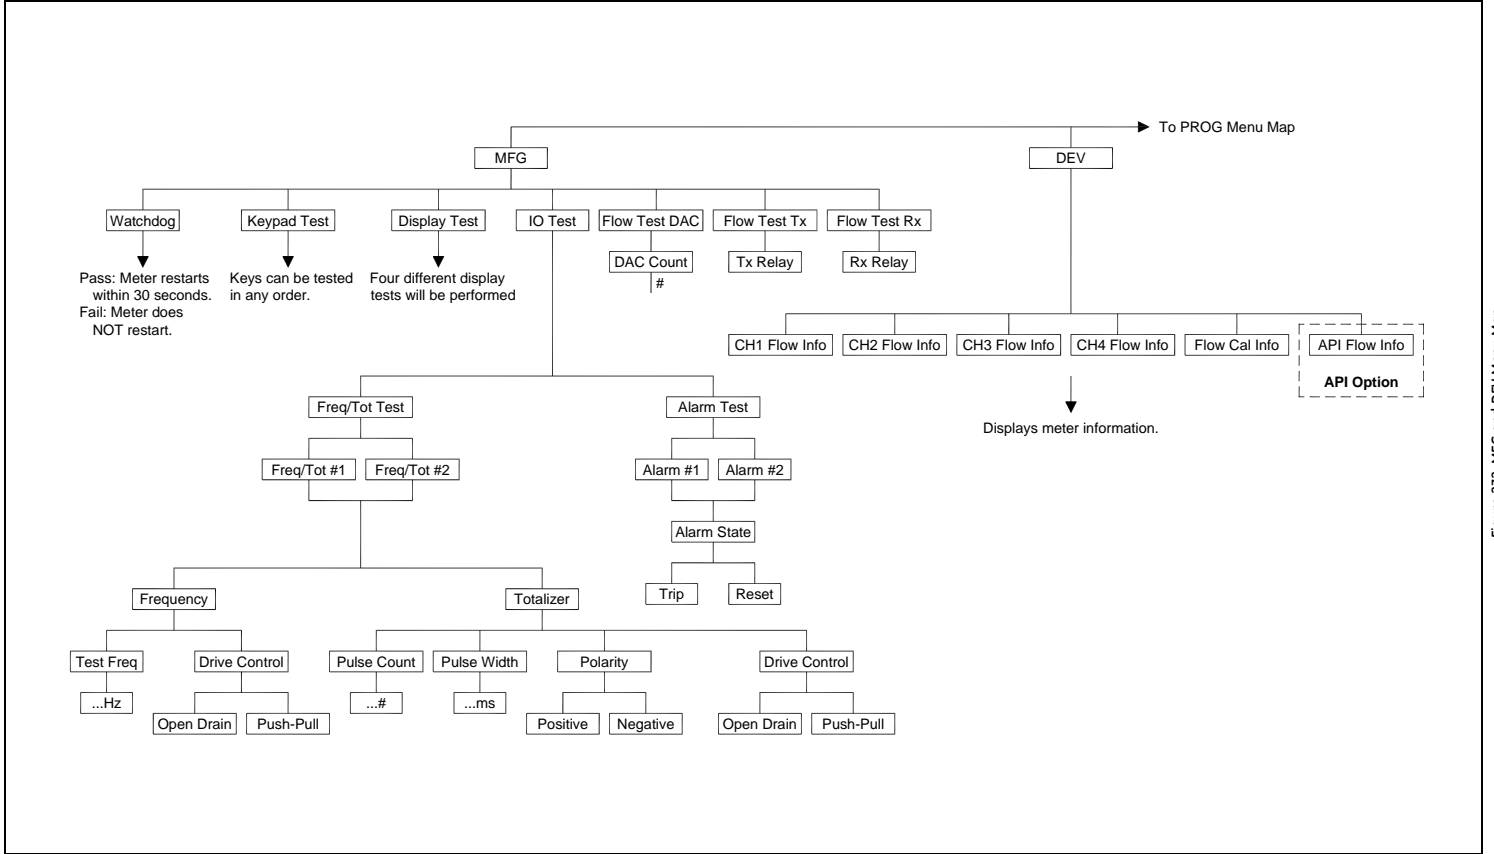

Figure 232: MFG and DEV Menu Map
- **Figure 232: MFG and DEV Menu Map**